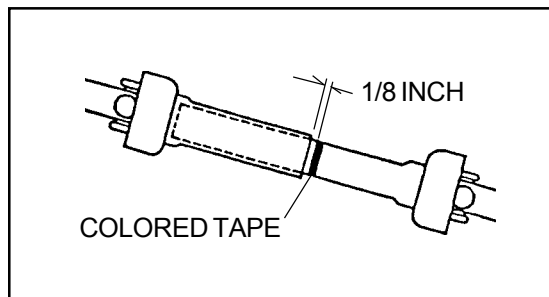

FIGURE 2
Attach the right and left Axle Arm Weldment (1) to the deck with bolts (2) flatwashers (3), and locknuts (4). Install two one inch spacer (6) and two 1/4 inch spacers (8) on each fork and wheel assembly shaft (5), which include Bearing (7). Insert fork shaft (5) into axle arm weldment (1). Install two additional one inch spacers (6) on each axle shaft (5) and retain using Snapper Pin. (9) FIGURE 2.
- * Apply colored tape to the Inner Shield 1/8" from the end of the Outer Shield. **FIGURE 2**
The gearbox should not require additional lubricant unless the box is cracked or a seal is leaking. It is recommended that the oil level plug be removed after every 8 to 10 hours of operation and oil added until it runs out Test Plug hole. The Test Plug is located on the back of the Gearbox. Filler Plug is located on top back of Gearbox. **Figure 2.**